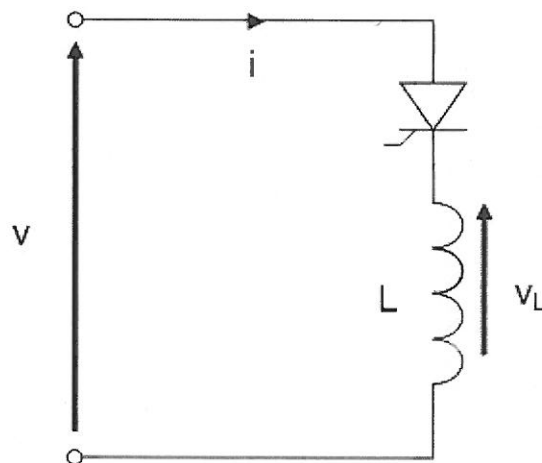

FIGURE 2
- (c) In the circuit shown in Figure 2, the thyristor is turned on at time $t = 0$, where the supply voltage, v , is given by